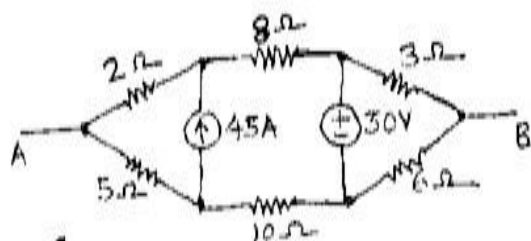

Figure 3
25. Determine V , dV/dt and d^2V/dt^2 at $t=0^+$ when the switch K is opened at $t=0$ in fig 3, $R=100ohm$, $L=1H$ and $I=2A$